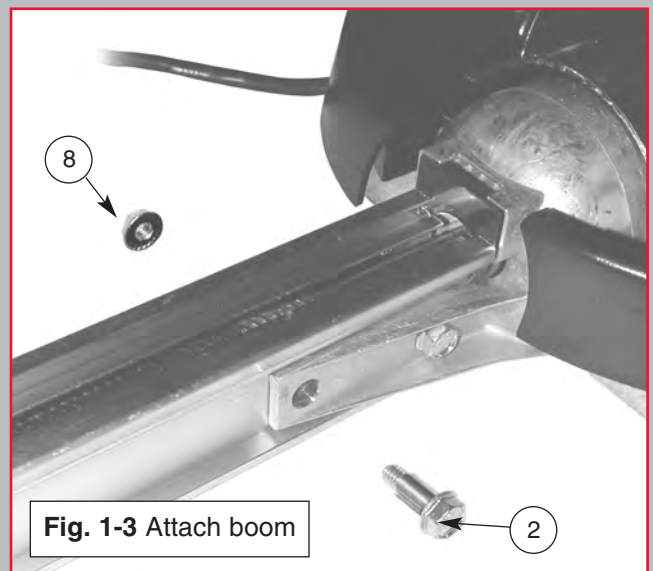

Fig. 1-3 Attach boom
- Slide boom into bracket and line up holes with those on power head (Fig. 1-3).